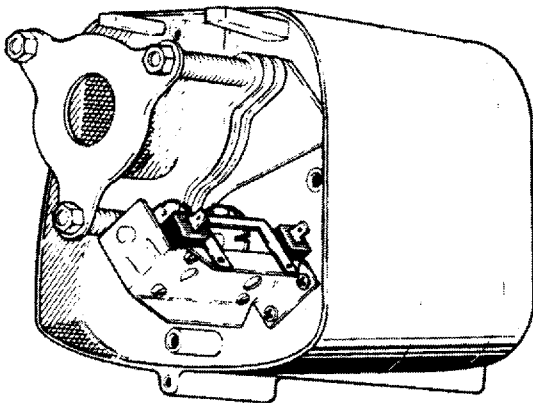

FIGURE 6-1. ELECTRICAL PANEL REMOVAL
- b. Remove electrical panel by removing three standoff screws. (See Electrical Parts, Figure 8-4. Figure 6-1 shows this area with panel removed.)